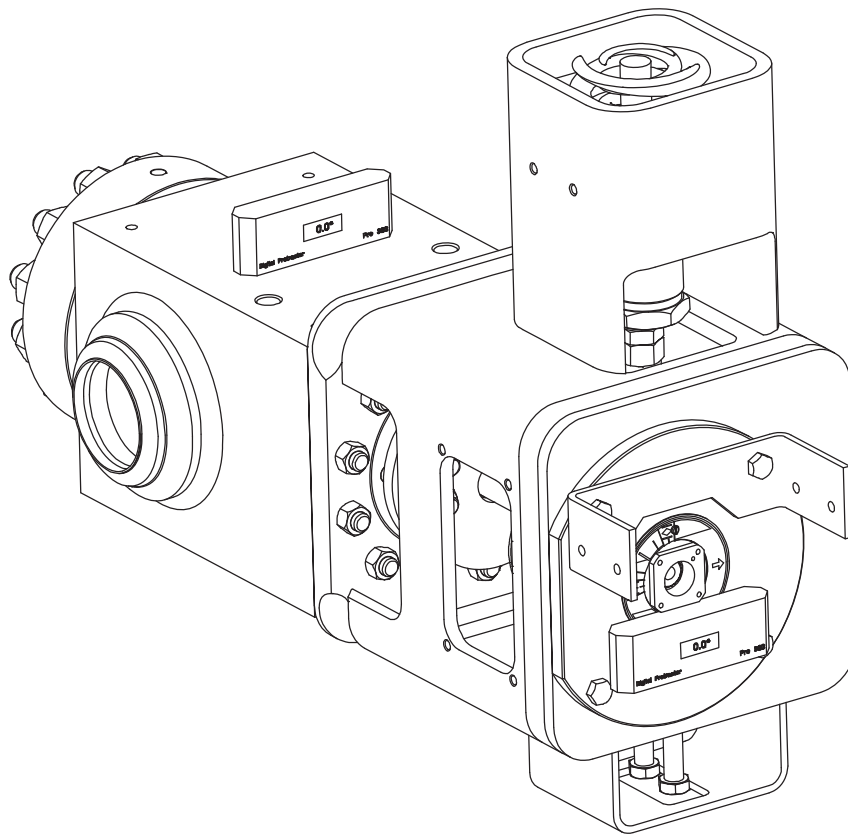

Figure 5. Precise Valve/Actuator Closed Position Adjustment
1. Loosen the lower locknut (key 16).
2. Make sure the actuator box assembly (key 14) is clear of any tools or other instruments that could obstruct the actuator stroke path. Pressure the diaphragm casing enough to stroke the actuator down so that the left-hand threaded upper locknut (key 58) is accessible through the access opening. Loosen the locknut.
3. Release all pressure from the actuator by venting the casing to atmosphere, making sure the diaphragm is against its up travel stop. Check the valve position using a digital protractor, to align the horizontal edge of the hub (key 29) to a flat surface on the top of the valve body (key 1 of the valve assembly). Refer to figure 5.
4. If the two surfaces are not within 0.3 degrees, adjust the turnbuckle (key 57) with a 1–5/16 inch wrench and recheck. Continue this procedure until the valve is in the closed position when the actuator is resting on its up travel stop.